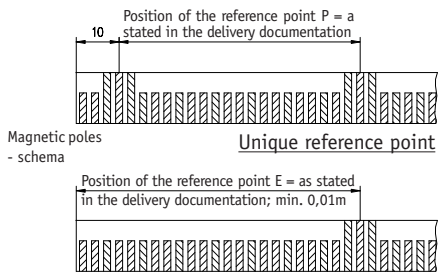

Fig. 7: Definition of the counting direction with magnetic strip and assemblage sensor/magnetic ring, gap measure, tolerances
- When mounting the magnetic sensor, ensure that the gap between strip & sensor and the max. admissible deviation are maintained over the total measuring length (see fig. 7)!
- Tolerance for the gap between magnetic sensor and magnetic strip not observed over the **total** travel distance. Sensor touches strip (see fig. 7).
- Sensor's active side not mounted towards the magnetic strip (see fig. 7).